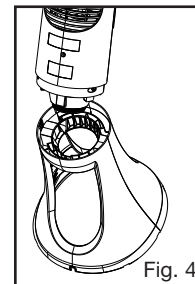
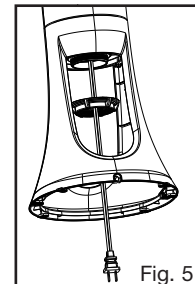

Fig. 4
Fig. 5
- Carefully lift the fan housing (Fig. 4) and place the power cord through the center of the base.
- Lower the fan housing into the base (Fig. 4), align the back of the fan with the back of the base. Gently rotate the fan housing until it is seated in the base. (Fig. 5).
- Take the locking nut and place power cord through the locking nut (Fig. 4) bringing locking nut up inside the base, (Fig. 5) screw the locking nut onto the fan housing turning clockwise until fully tightened and an audible ratcheting is heard.